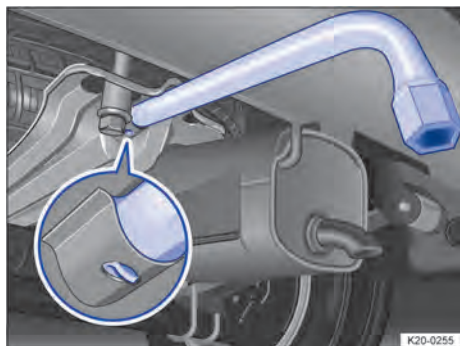

Fig. 210 Underneath the vehicle: spare wheel bracket with box spanner inserted
3. Fit the box spanner in the bracket → Fig. 210.
Make sure that the box spanner hook is located in the hole in the bracket → Fig. 210 (close-up). If the box spanner is hooked in correctly, you should not be able to pull it out towards the back of the vehicle.
2. Fit the box spanner in the bracket → Fig. 210.